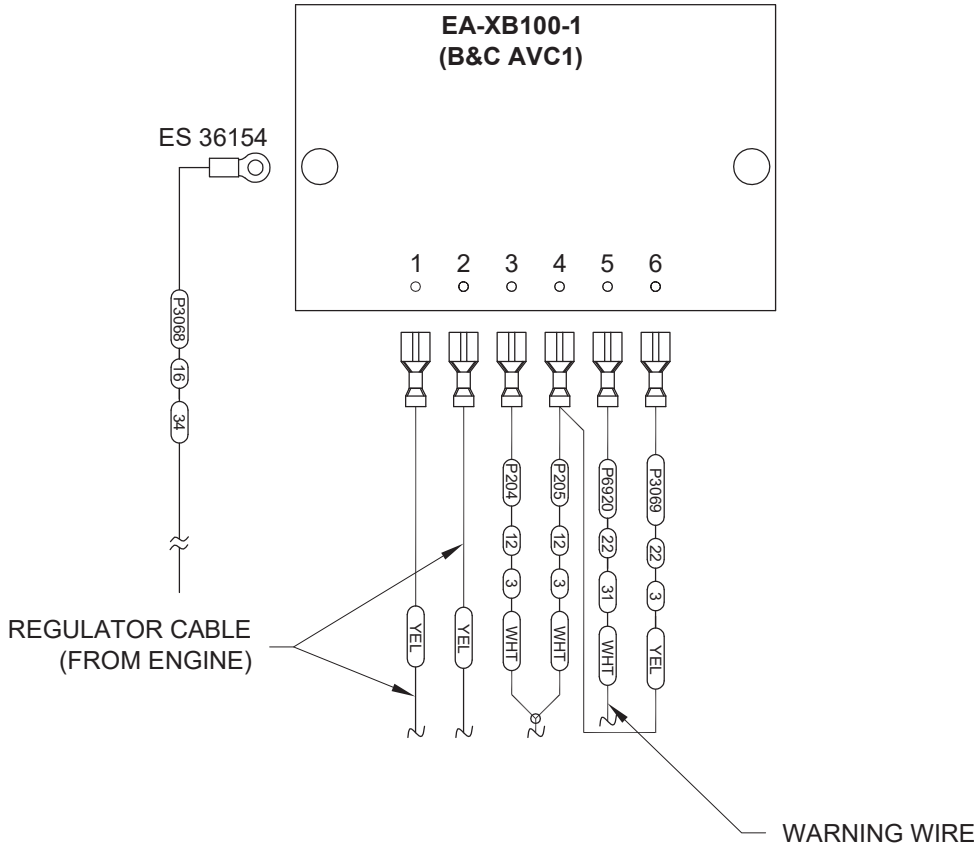

FIGURE 1: REGULATOR WIRING
Step 3: Connect the P6920 Warning Wire to the EA-XB100-1 as shown in Figure 1.
Step 4: Connect the P204 (WHT), P205 (WHT), and P3069 (YEL) wires to the EA-XB100-1 as shown in Figure 1.